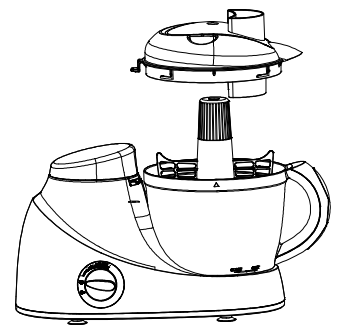

Fig.5
b) Slide the whisk onto the spindle.(see fig.5)
d) Place the lid onto the bowl and turn it clockwise until you hear it click into position. The spur on the lid sticks out of the base of the lid-locking slot (see fig.5).